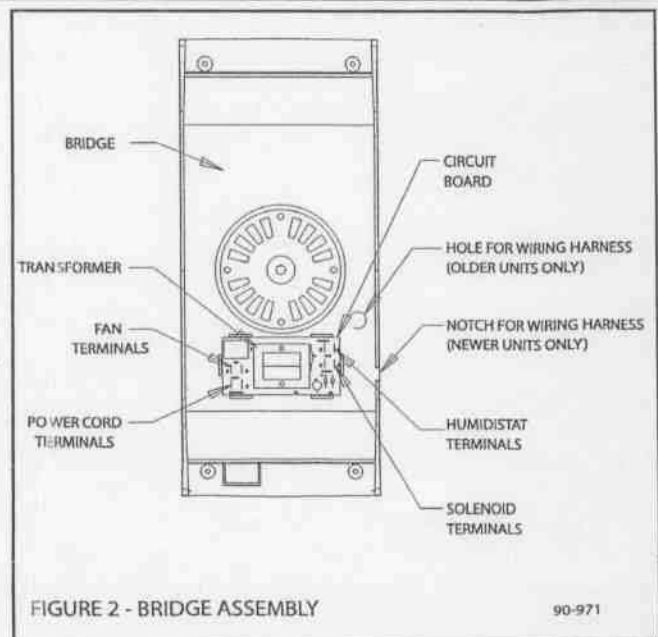

FIGURE 2 - BRIDGE ASSEMBLY
6. Use needle nose pliers to disconnect power cord terminals and fan terminals from old circuit board (see Figure 2). **CAUTION:** Do not pull on wires directly. Instead, use the pliers to grab the terminals when removing from circuit board.